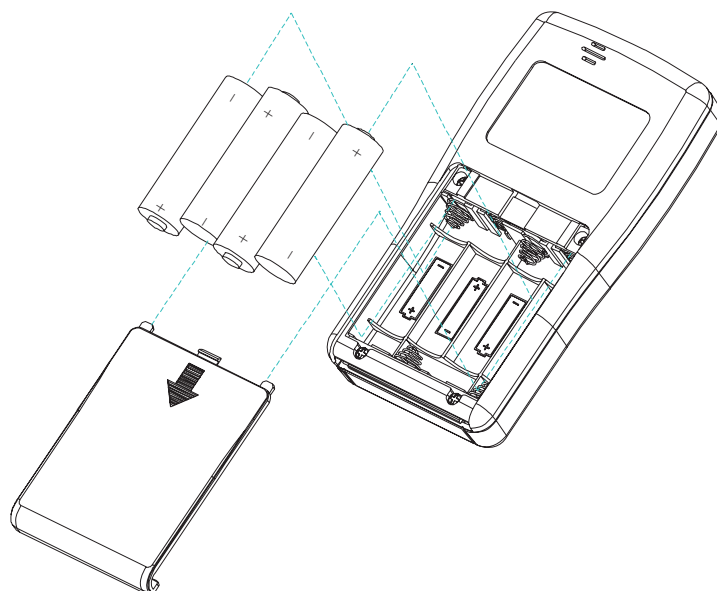

Figure3-1: Installing Batteries
2. Install four “AA”size batteries, oriented as shown in Figure 3-1 . Replace the battery access door.